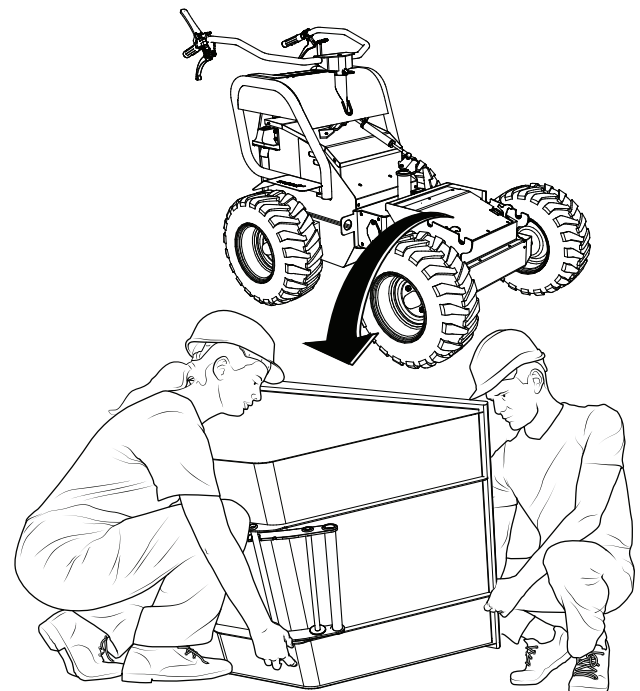

**Figure 69. Locking Levers (Unlock)**
1. Place both locking levers in the **unlock** position (Figure 69).